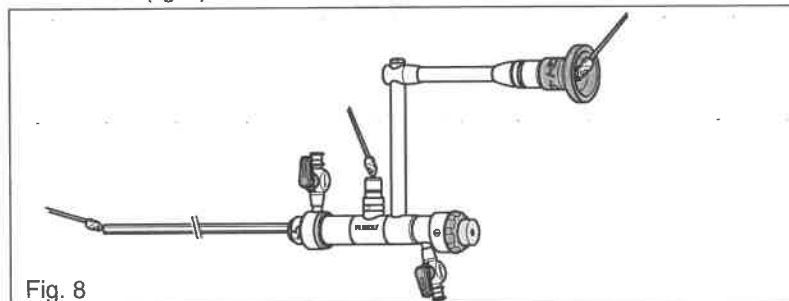

Fig. 8
- Clean the glass surfaces with a swab soaked with alcohol (wooden swab carrier, not metal or plastic) remove hard-to-remove deposits with instrument cleaner* (fig. 8).